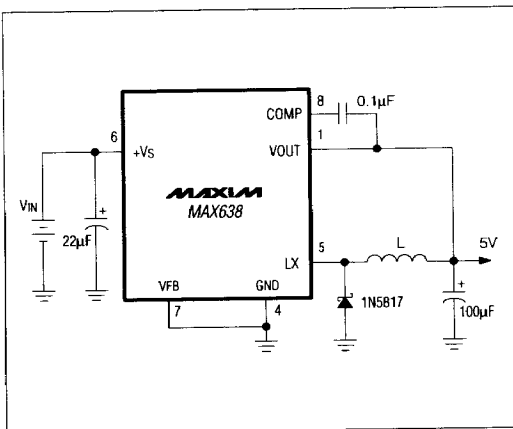

Figure 3. Typical Operating Circuit (Table 1)
Table 1 shows nominal inductor parameters for a variety of input voltages. The data refers to the circuit of Figure 3.
**Table 1. Inductor Selection For Common Designs (See Figure 3)**